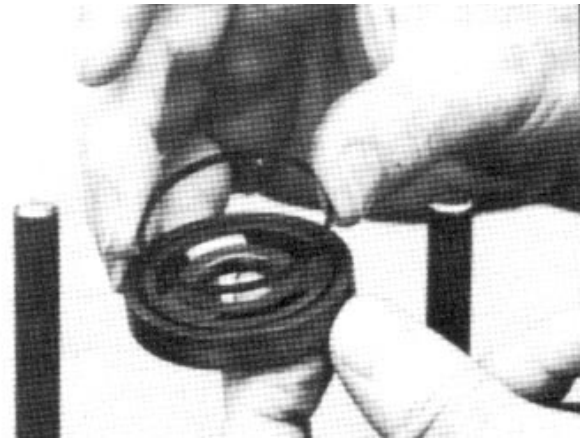
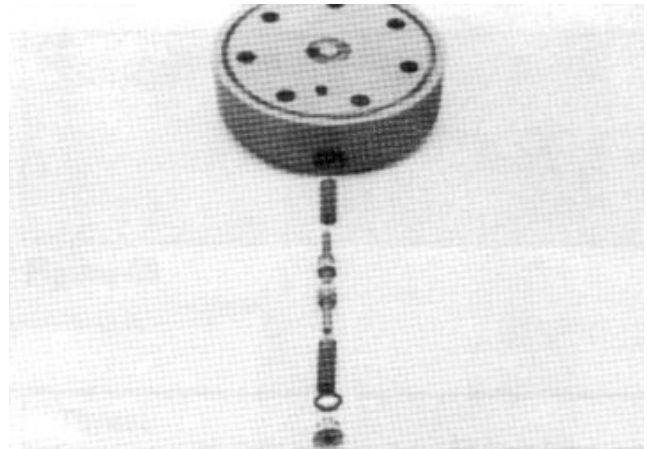

Figure 48
Figure 49
15. Apply clean grease to a new seal ring (5) and assemble it in the seal ring groove in the rotor set contact side of manifold (22).
16. Assemble the manifold (22) over the alignment studs and drive link (13) and onto the rotor set. Be sure the correct manifold surface is against the rotor set.
17. Apply grease to a new seal ring (5) and insert it in the seal ring groove exposed on the manifold (22).
18. Assemble the commutator ring (6) over alignment studs onto the manifold (22) (Fig. 48).
19. Assemble a new commutator seal (15) flat side up, into commutator (16) and assemble commutator over the end of drive link (13) onto manifold (22) with seal ring side up.
20. If shuttle valve components items (left-hand motor only) were removed from the end cover (24), screw a plug with a new O-ring (25), loosely into one end of the valve cavity in the end cover. Insert spring, valve, and second spring into the other end of the valve cavity. Turn second plug with a new O-ring (25) loosely into the end cover valve cavity. A 3/16-inch allen wrench is required (Fig. 49).